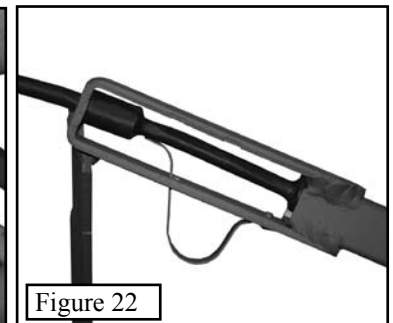

Figure 22
**Step 4.** Your cable bracket should now look like **Figure 22**.